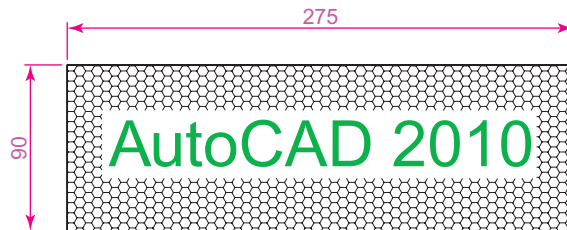

Fig. 8.13 Sixth example – text in hatching
Sixth example – text in hatching (Fig. 8.13)
1. Construct a pline rectangle using the sizes given in Fig. 8.13.
The result is shown in Fig. 8.13.